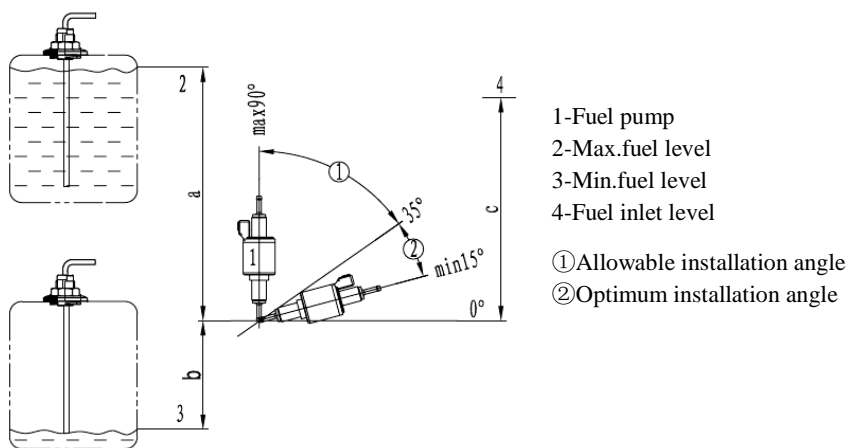

Fig.11
4.5.1 The fuel pump shall be fixed in automobile with a fuel pump clamp with protective rubber cover. The outlet of the fuel pump shall tilt upwards. The tilt angle can be selected from the range of  $15^{\circ}\sim 35^{\circ}$  (as shown in Fig. 11). When conditions permit, the fuel pipe between the fuel pump and the heater shall go up gradually.
4.5.3 Difference in elevation between the level of fuel and the fuel pump as well as the difference in elevation between the fuel pump and the fuel inlet of the heater can produce pressure (or suction) in the fuel pipeline(See Fig.11). So, these dimensions shall conform to the requirements as follows:  $a \leq 3m$   $b \leq 0.5m$  (Avoid of negative pressure may be produced in sealed fuel tank. In such case,  $b \leq 0.15m$ )  $c \leq 2m$ .